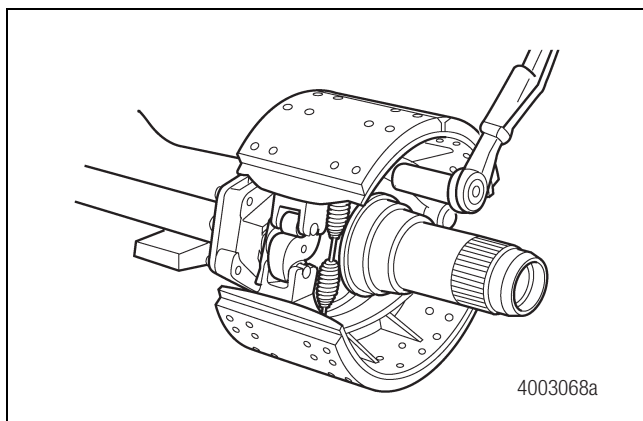

Figure 3.34
6. Use a 5/16-inch socket and wrench to install all capscrews except the ones on each side of the top hole for the ABS sensor cable. Tighten the capscrews to 180-230 lb-ft (244-312 N•m). Figure 3.34.